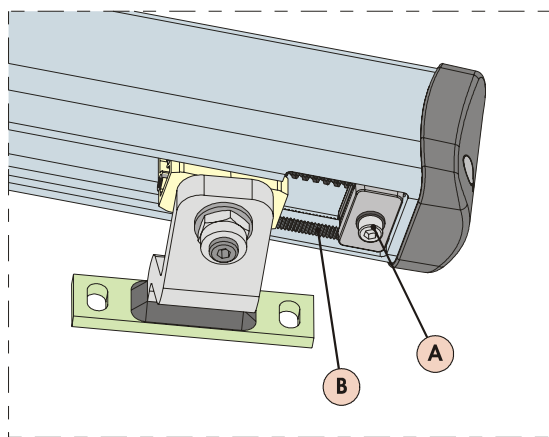

Fig. 19
- 3) Loosen the fastening screw, Fig.19 ref.A. Do not remove the screw.
IMPORTANT: The mechanical stop works coupled to a toothed sector, Fig. 19 ref. B. If there are any troubles during the movement, make sure that the coupling is free. **DO NOT FORCE.**